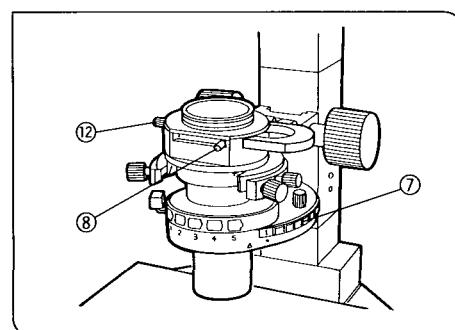

Fig. 97
4. Rotate the condenser turret ⑦ to select the "BF" brightfield observation light path (no optical element in the light path) (Fig. 97).
5. To engage the polarizer into the light path, move the polarizer lever ⑧ on the polarizer unit (IX-LWPO) to the right.
10. While looking at the objective exit pupil, rotate the polarizer slider polarizer rotation/clamping knob ⑫ to the position where the black fringe is best defined. (Figs. 97, 98)
1. Rotate the condenser turret ⑦ to engage the Nomarski prism that matches the objective to be used. (Fig. 97)